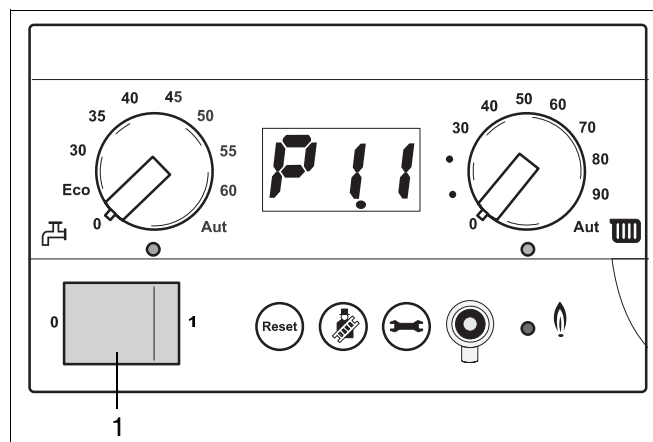
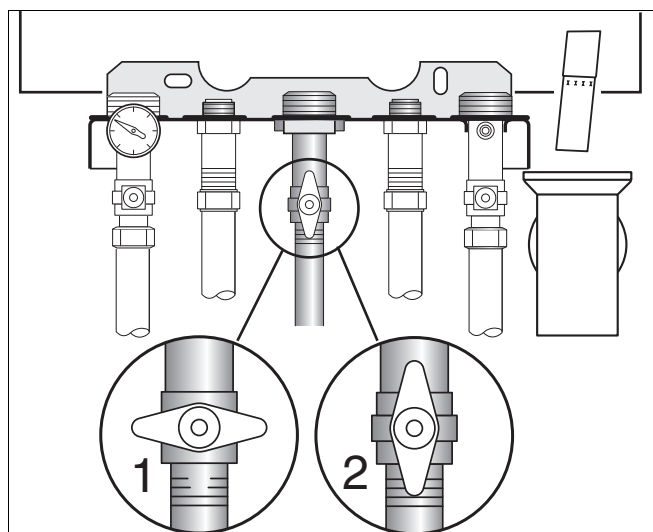

Fig. 7 BC10; Mains power switch
Fig. 8 Gas service valve
- Push the mains power switch (fig. 7, item 1) to "0".
- Close the gas service valve by turning it clockwise (fig. 8, item 1).
- Turn the mains switch to "I" (fig. 7, item 1) and leave the gas service valve open (fig. 8, item 2).